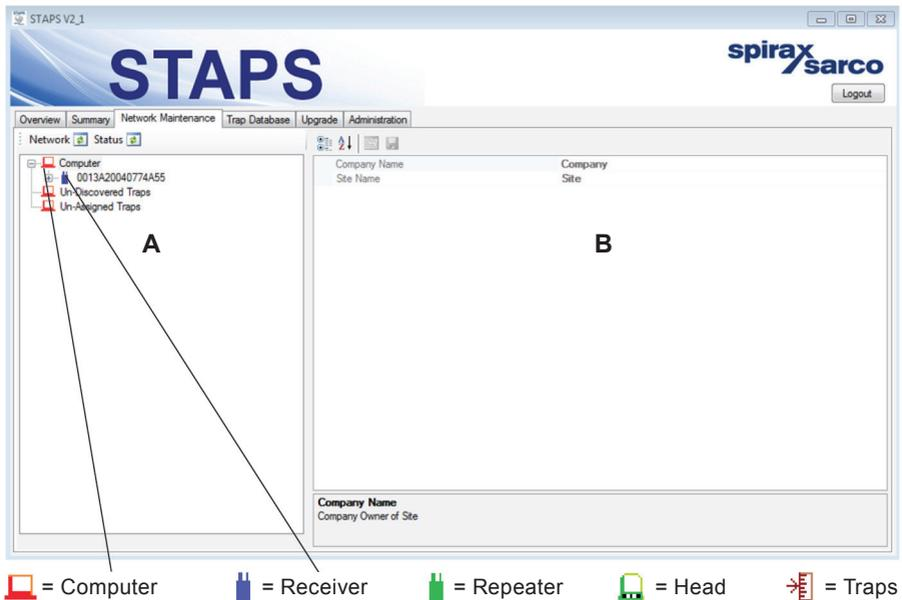

Fig. 5
**Section A** in Figure 5 above shows the 'network tree' and indicates which Heads and Repeater are associated with which Receivers.
**Section B** in Figure 5 above shows the details of the highlighted device and will change data accordingly.